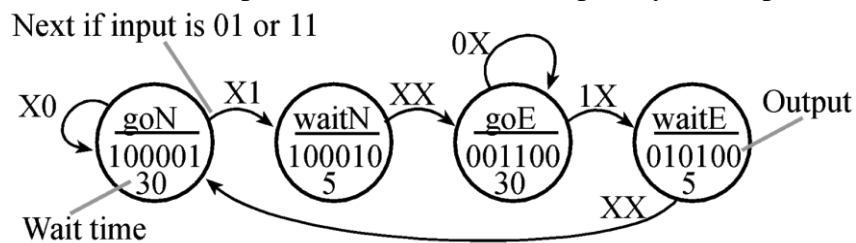

Figure 5.2. FSM from the book Figure 6.20 redrawn with a shorthand format.
- Because we have three inputs, there will be 8 next state arrows. One way to draw the FSM graph to make it easier to read is to use X to signify don't care. For example, compare the Figure 6.9 in the book to the FSM graph in Figure 5.2 below. Drawing two arrows labeled **01** and **11** is the same as drawing one arrow with the label **X1**. When we implement the data structure, we will expand the shorthand and explicitly list all possible next states.